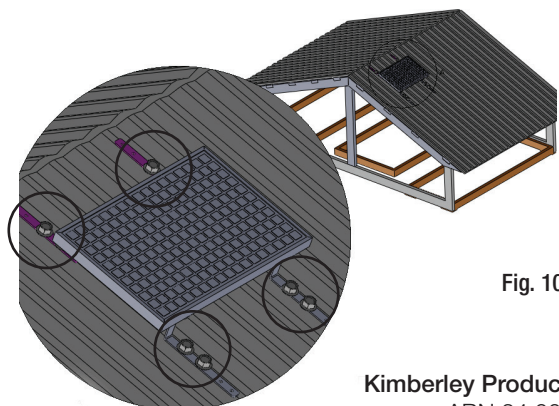

Fig. 10
4. Use 8x metal roofing screws to secure bracket. Top brackets must be fastened through roofing into roof batten. Use silicone to seal screws, cable hole and gaps Fig. 10.